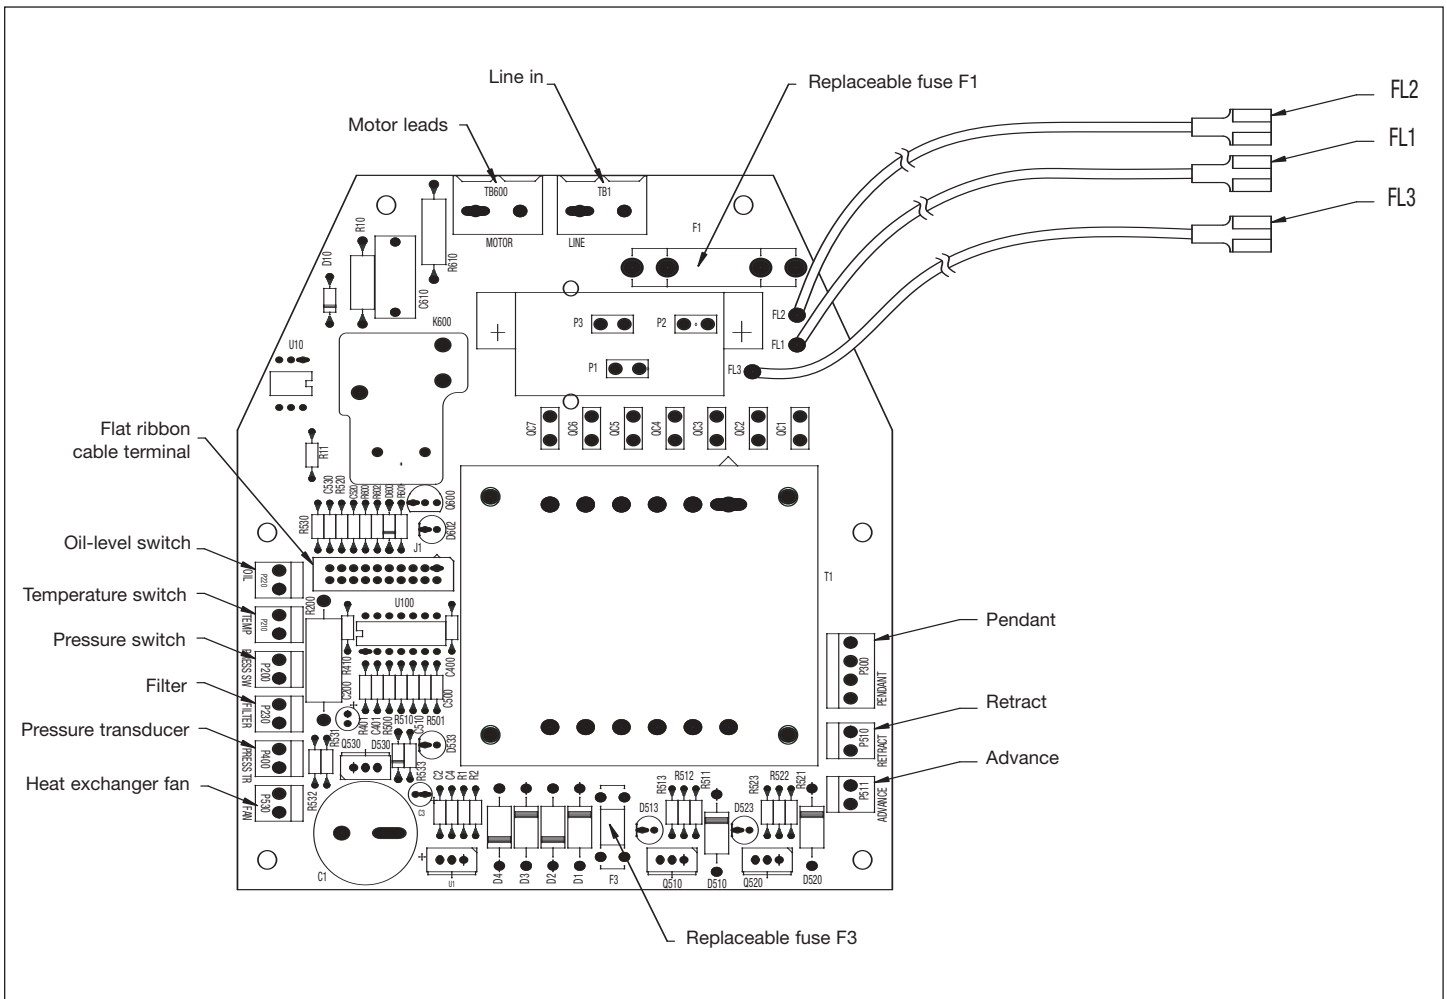

Figure 9, Electric Power Board Configuration
The pressure transducer, heat exchanger, pressure switch, pendant / foot switch, valve solenoids (A) and (B) are supplied with connectors that plug into the proper plug-ins found on the electrical power board (Figure 9).